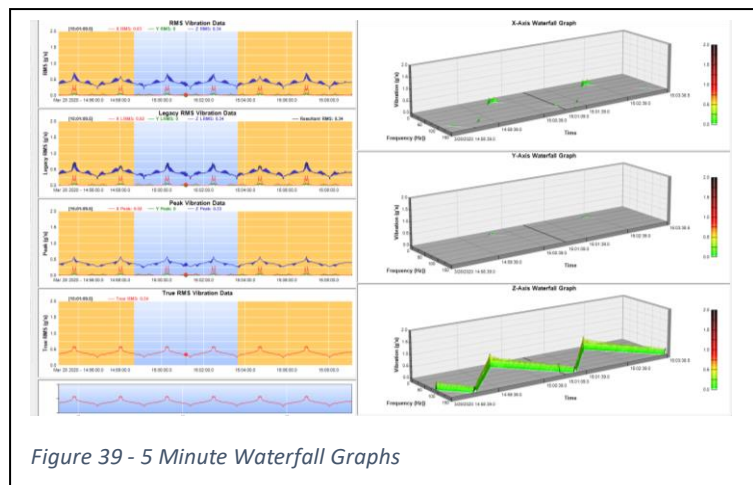

Figure 39 - 5 Minute Waterfall Graphs
Figure 39 shows the changes that occur when switching to the five (5) Minute Window. Note that the orange bands are narrower on the *Reduced Data Graphs* and additional time is added to the *Waterfall Graphs*.
Very low amplitudes are displayed in white, moving into green and then yellow as the amplitudes approach the current *Peak Warning Limit* value (set using the *Configuration / Set Vib Limits* menu option). As amplitude levels continue to rise and approach the current *Peak Error Limit*, the color changes to red. Amplitudes above the *Peak Error Limit* continue to darken through the red spectrum to black. Figure 39 shows the color scale with a Warning Level of 0.5 g's and an Error Level of 1.0 g's. A color bar is displayed at the far right of the waterfall graph showing the way color represents amplitude levels.